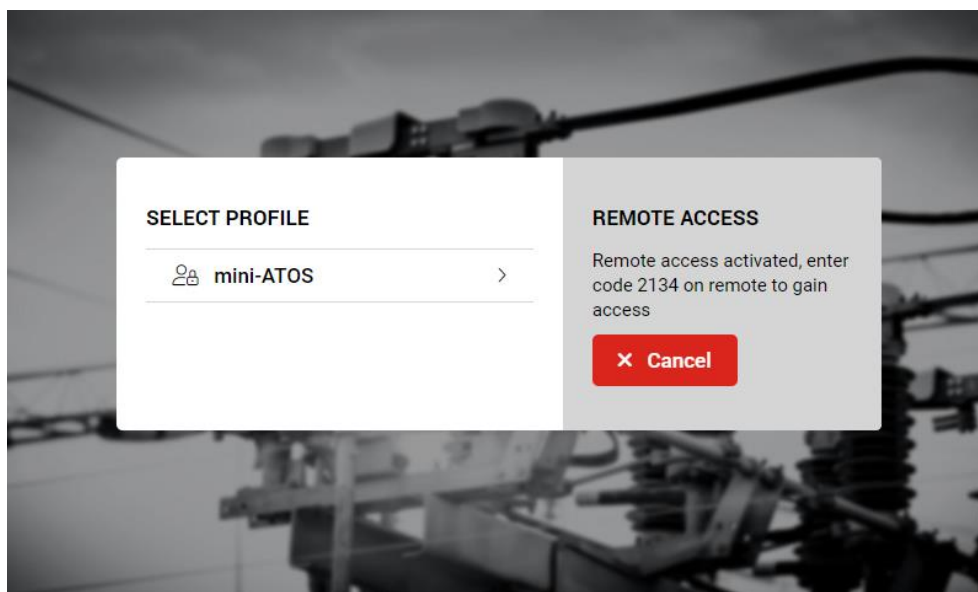

Figure 99: Remote access activated with an auto-generated key on the mini-ATOS display
- 4- Activate remote access on the select profile page. If you didn't input the access key manually in the settings, you will see then the auto-generated access key (Figure 99)